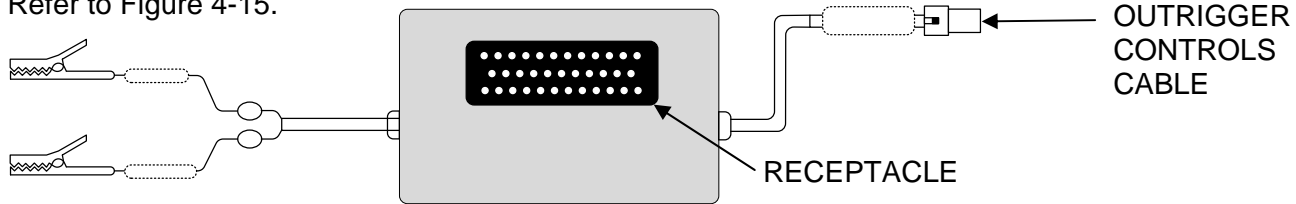

Figure 4-15. Manual Outrigger Control Wire Harness
Refer to Figure 4-15.
- Plug it into the receptacle on the Manual Outrigger Control Wire Harness. Refer to Figure 4-15.
- Disconnect the wire harness from **C7 VALVE** on the hydraulic power unit and replace it with the Outrigger controls cable. Refer to Figure 4-15.